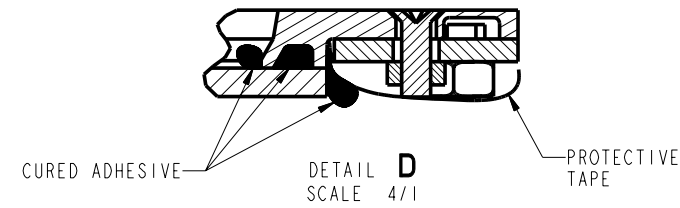

FIGURE 3
OVER CORRECTION (FIG 3)
## OVER CORRECTION (FIG 3)
SPACER INSTALLATION MAY CAUSE SLIGHT OVER CORRECTION OF OPTO LINE OF SIGHT (FIG 3). CORRECTION SHOULD BE LESS THAN 1mm.
**SOLUTION:** SET THE GASKET AWAY FROM EDGE 1 ABOUT .5mm TO 1mm (AS SEEN IN FIG 3) TO PROVIDE OPTIMUM GASKET EXPANSION DURING COMPRESSION WITHOUT BLEEDING OVER EDGE 1 INTO THE OPTO'S LINE OF SIGHT OR CUT GASKET OFF SO OPTO LINE OF SIGHT IS NOT OBSTRUCTED.
AFTER CURING REMOVE TAPE AND ADHESIVE FROM ASSEMBLY IN ACCORDANCE TO SPECIFICATION CT 2000-0340. SEE FIGURE 3.